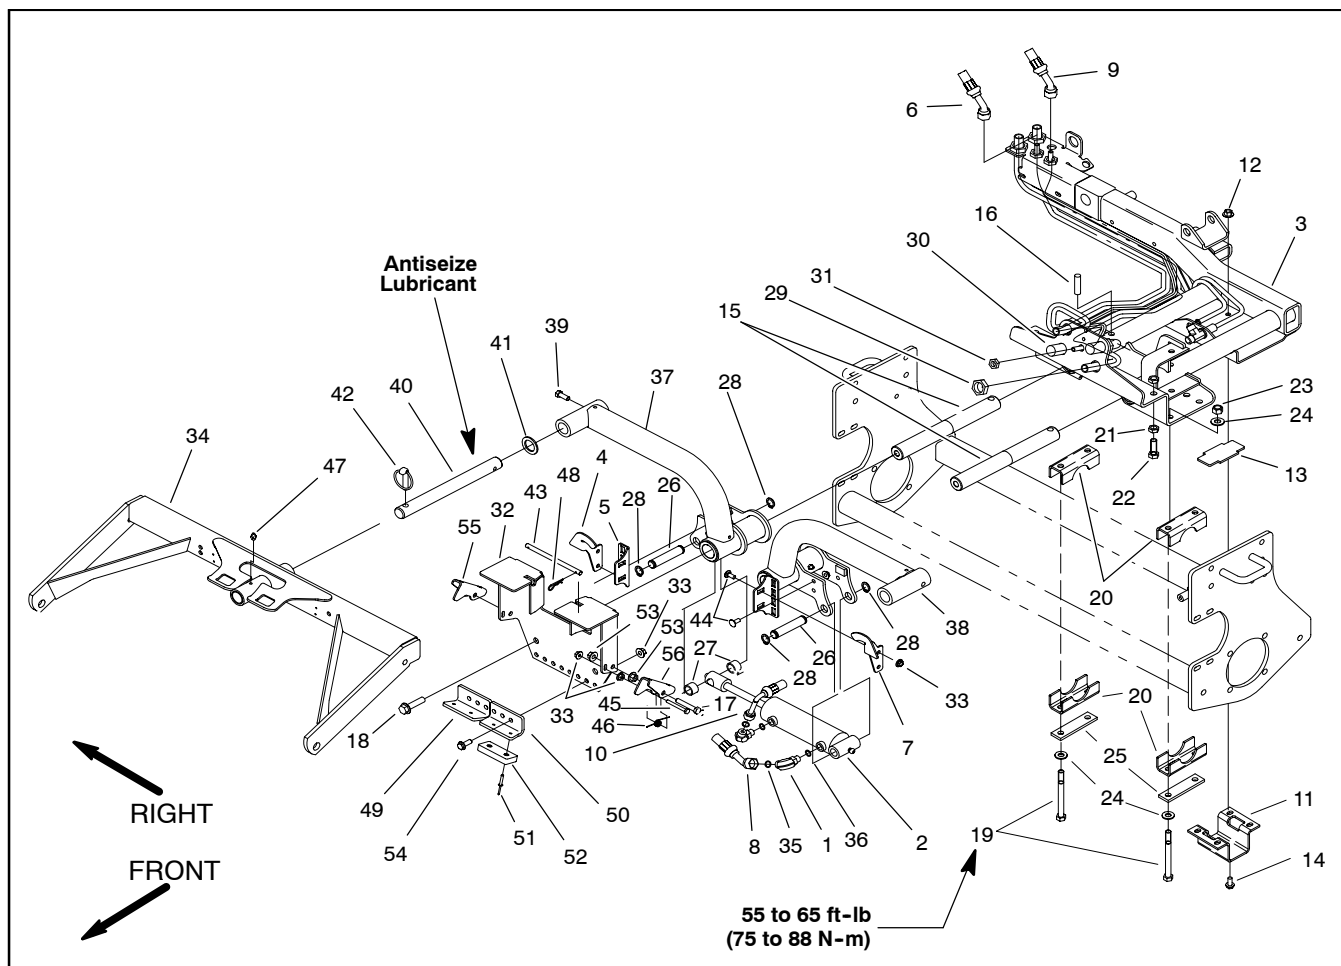

Figure 11
Removal (Fig. 11)
6. Disassemble lift arm as necessary using Figure 11 as a guide.
Installation (Fig. 11)
1. Assemble lift arm using Figure 11 as a guide.
A. If clamps (item 20) were removed, torque cap screws (item 20) from 55 to 65 ft-lb (75 to 88 N-m).
B. If carrier frame pivot shaft (item 40) was removed, apply antiseize lubricant to pivot shaft before installing carrier frame.